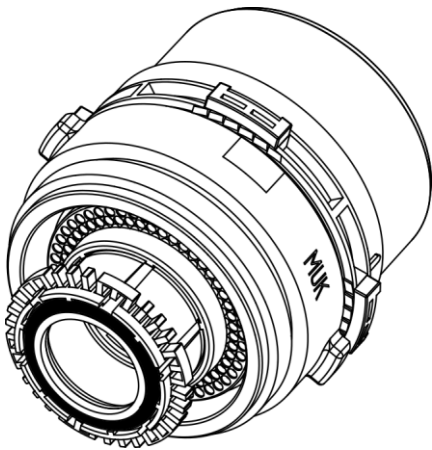

Figure 8. Gasket MUK
2. Check that the O-ring on the underside of the meter is correctly seated and correct if necessary (Fig. 8).